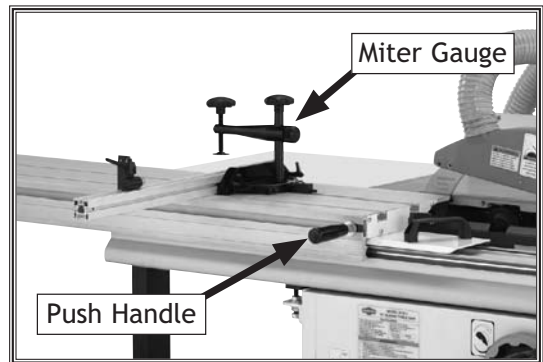

Figure 40. Push handle and miter gauge installed.
38. Assemble the miter gauge and push handle, as shown in Figure 40.